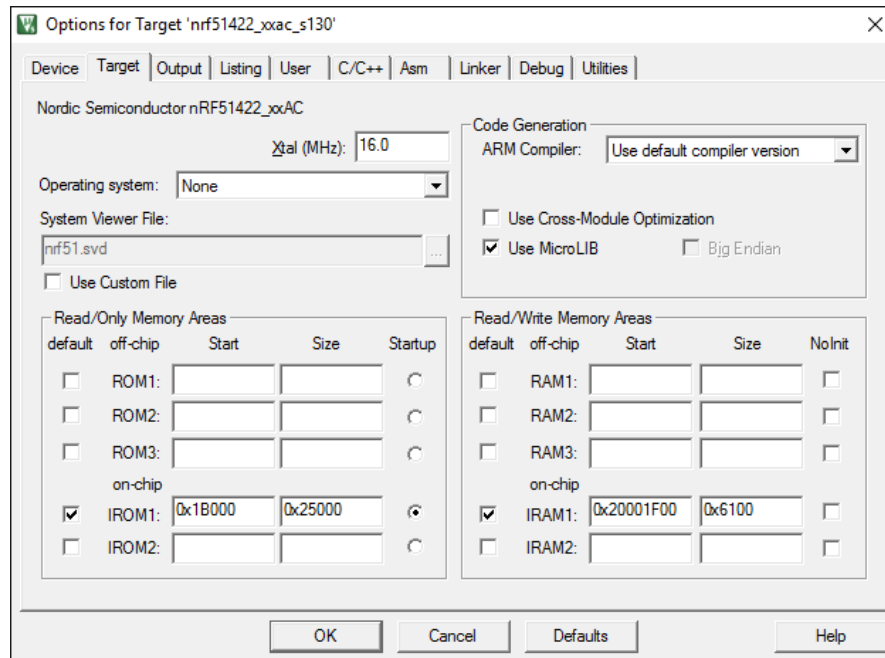

Figure 4 – Keil Flash Tools Target Window
6. After programming, nRFgo Studio should look similar to Figure 4.
**Note:** The memory locations in Figure 4 are based on the size of the S130 SoftDevice v2.0.0. If a different SoftDevice is used, these values may need to be adjusted. The SoftDevice specification documents contain the ROM and RAM requirements of each SoftDevice, see Nordic’s website.